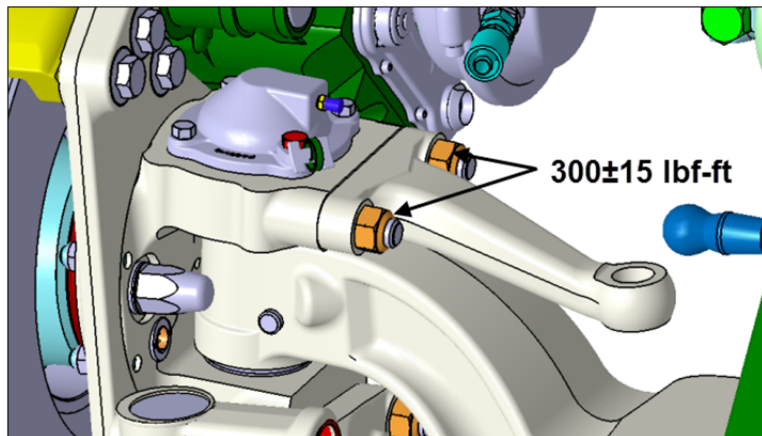

FIGURE 5
2. Fix the steering arm with two new nuts (p/n 611480) and tighten to specified dry thread torque: **300±15 lbf-ft (FIGURE 5)**.